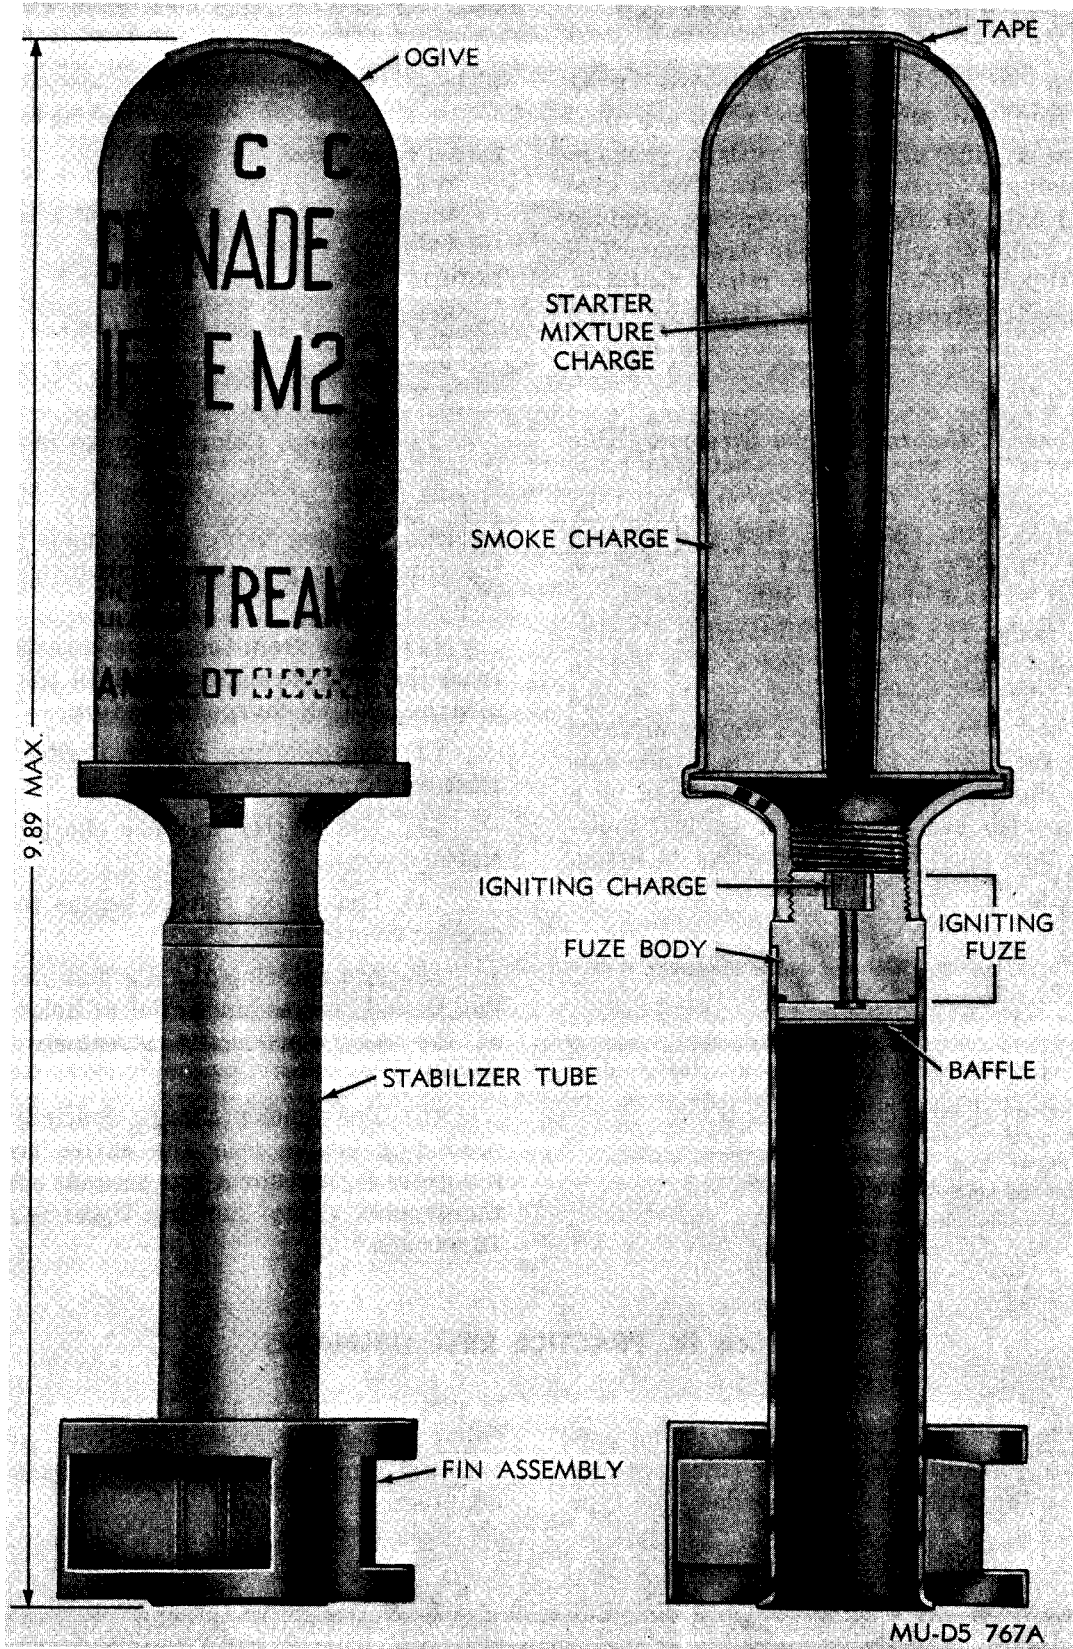

Figure 3-6. Colored smoke streamer rifle grenade M23A1.
a. *General.* Colored Smoke Streamer Rifle Grenades M23 and M23A1 (fig. 3-6) are projected from a rifle assembled with a grenade launcher, using a grenade cartridge. These grenades, used only for signaling purposes, produce green, red, violet or yellow smoke streamers. The M23 and M23A1 differ only in minor features. Colored Smoke Streamer Rifle Grenades M23 and M23A1 have a range of over 200 meters.